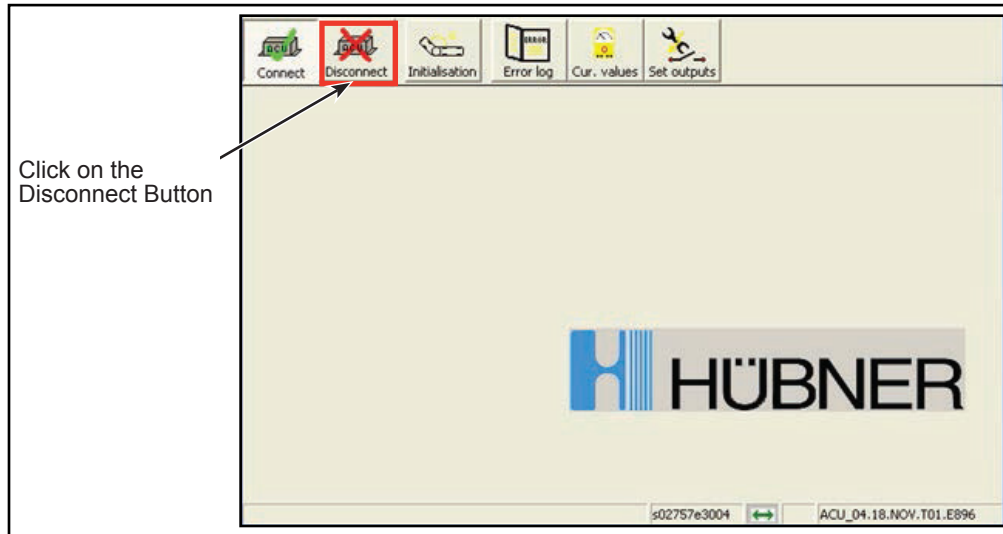

Figure 7 - Hubner Software Display
- 1.16. When complete, press the **DISCONNECT** icon (see Figure 7).